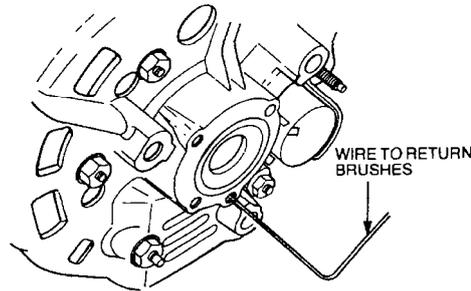

Figure 302 Holding Brushes In The Brush Holders
- (2) Press the new bearing into the front cover, install the retaining plate and secure it with the screws and lock-washers.
- (3) Clamp the rotor in a vice fitted with soft jaw protectors and install the front cover over the rotor shaft. Fit the spacer collar, fan, pulley, a new lock-washer and nut. Tighten the nut to 45 to 58 N.m (33 to 43 lbf.ft).
- (4) Insert the diode holder and stator into the rear cover, aligning the match marks and ensuring that the insulating washers are in the correct locations. Install the new lock-washers and nuts and tighten them securely.
- (5) Push the brushes into their holders and insert a piece of wire through the rear cover to hold the brushes back in the holder (Figure 302).